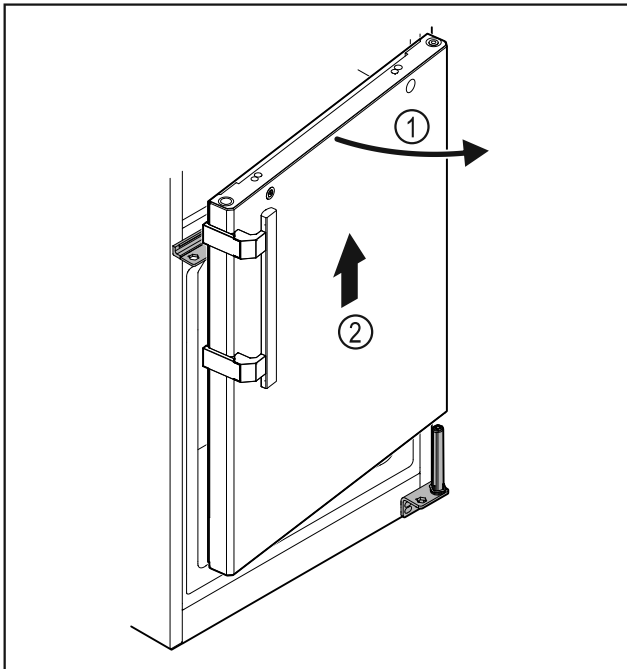

Fig. 24
- ▶ Open the door Fig. 24 (1) slightly, lift it straight up by around 200 mm and take it off Fig. 24 (2).